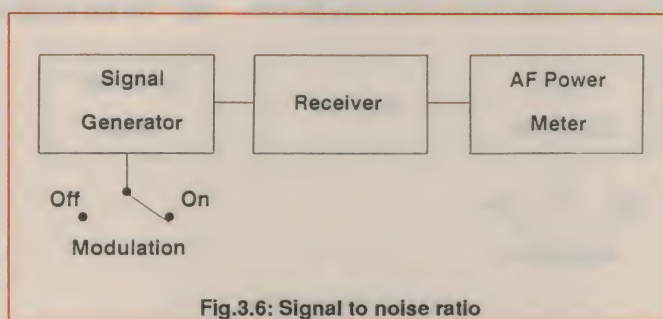

Fig.3.6: Signal to noise ratio
- i) Connect the equipment as shown in Fig.3.6.